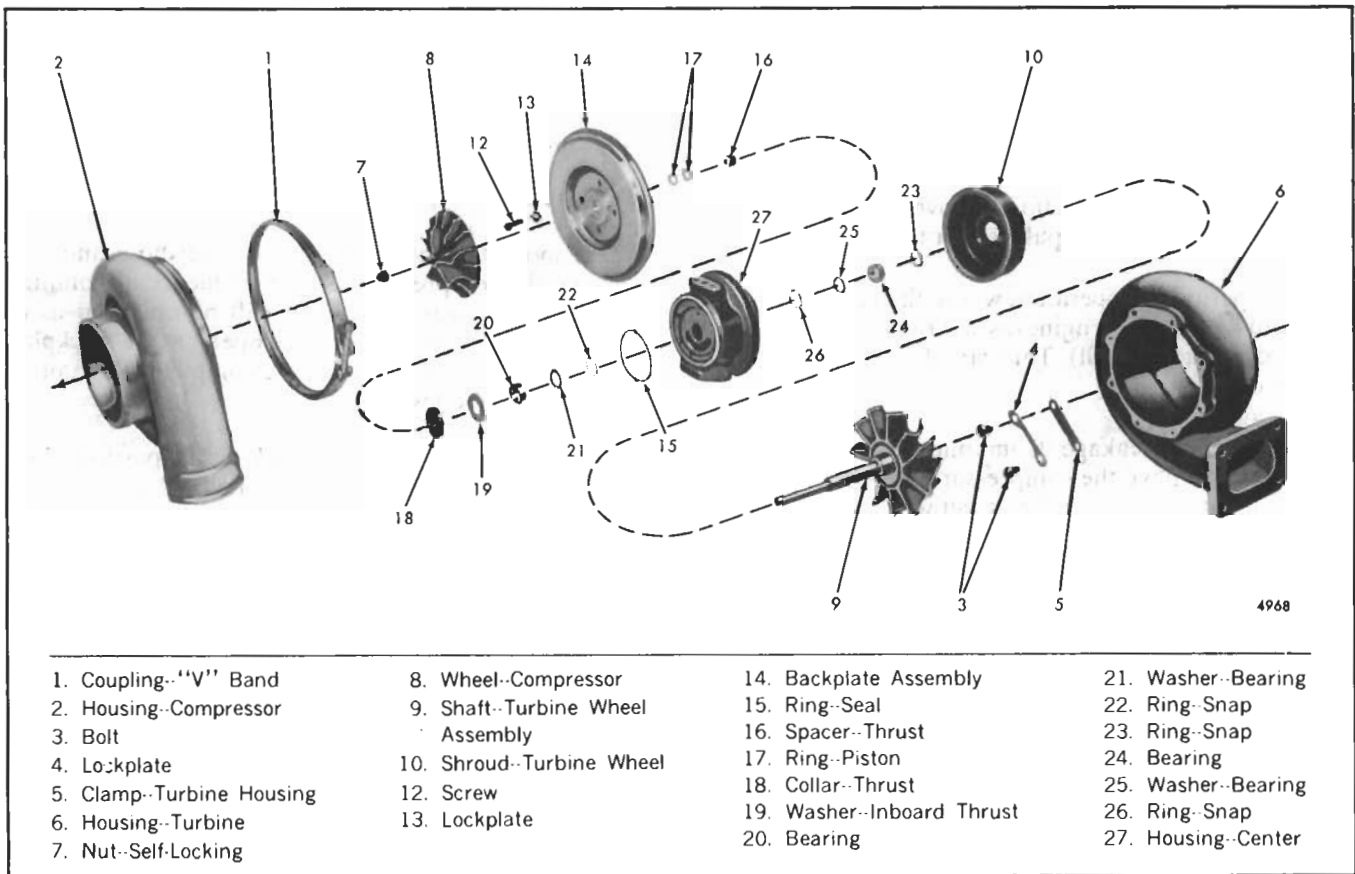

Fig. 6 - T18A40 and T18A90 Turbocharger Details and Relative Location of Parts
1. Refer to Fig. 6 or 7 and loosen the "V" band coupling (1) securing the compressor housing (2) to the backplate assembly (14) and remove the compressor housing and "V" band. Refer to Fig. 8 and remove the bolts and lockplates securing the compressor housing to the backplate assembly and remove the compressor housing.
Refer to Figs. 6 and 7 for parts orientation and proceed as follows: